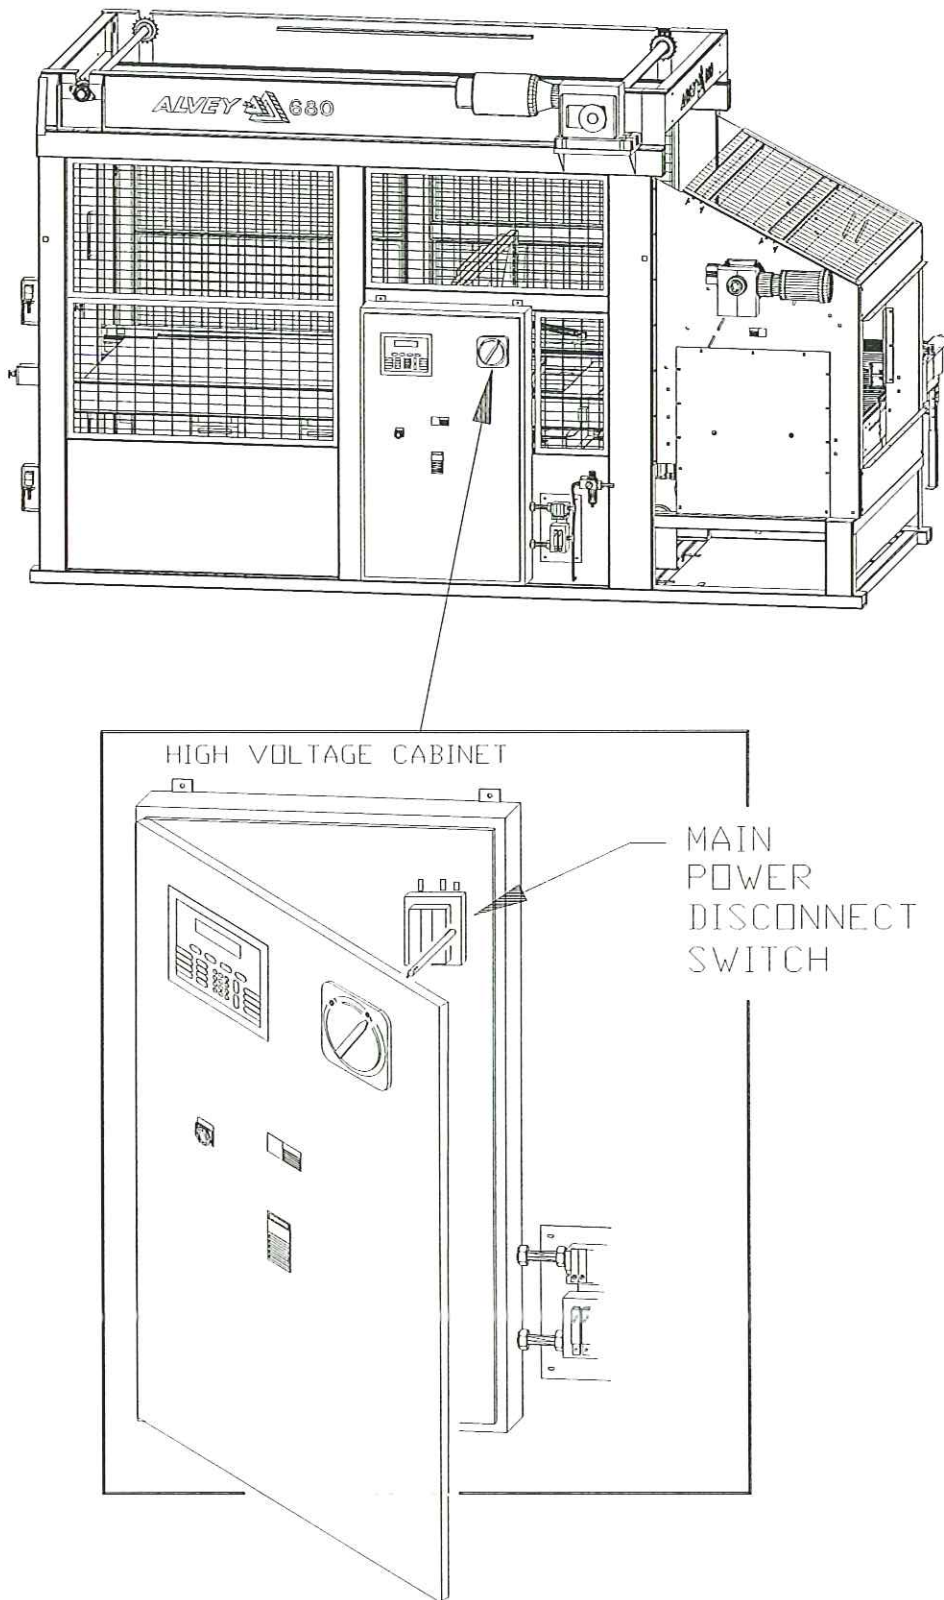

Figure 6-12: Electrical Main Power Supply Connection
5. Connect the high voltage main electrical power supply to the palletizer/unitizer main power disconnect. The main power disconnect switch is located inside the high voltage electrical cabinet near the upper right corner. (See Figure 6-12.)